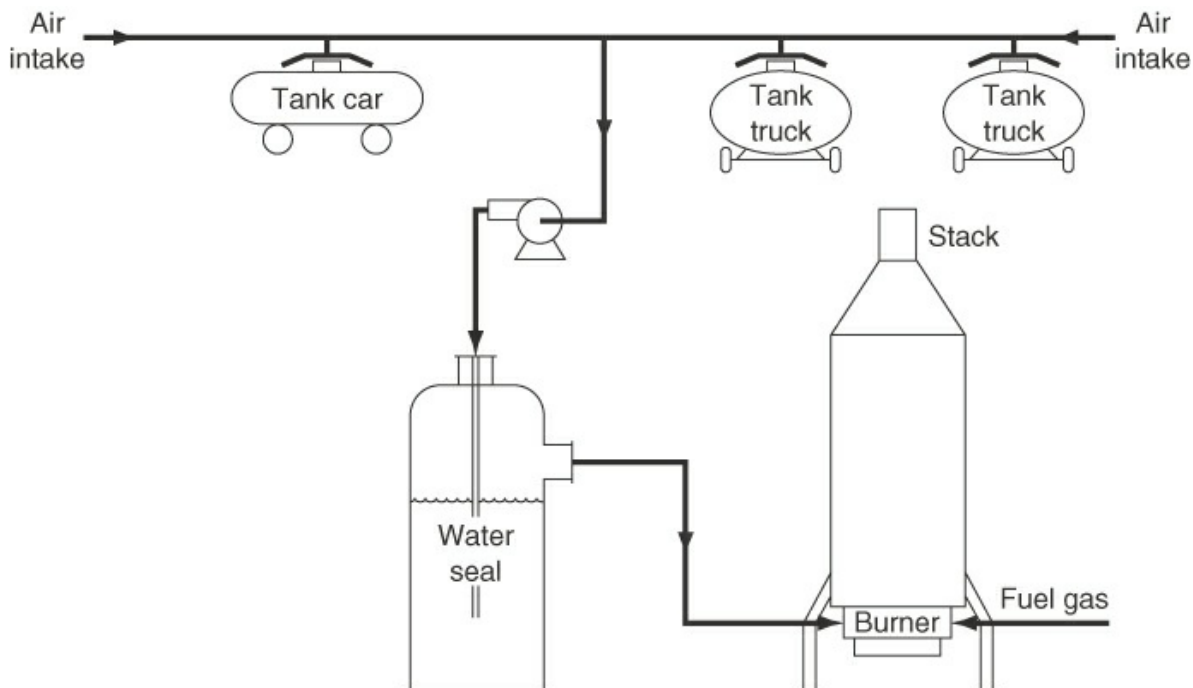

Figure P7.4.16
*****7.4.16** Figure P7.4.16 shows a typical *n*-butane loading facility. To prevent explosions, either (a) additional